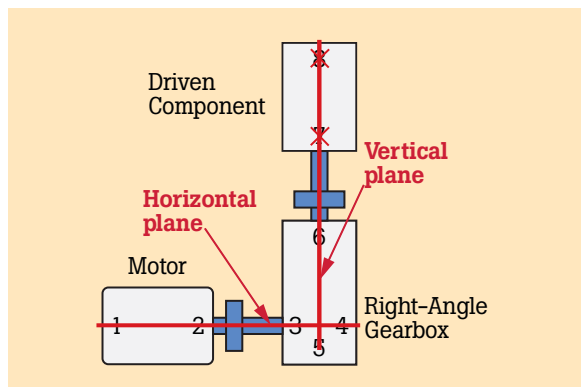

Figure 5. Horizontal and vertical shafts.
**Note:** You cannot use this test method if the gearbox output shaft connects to the driven component through a flexible coupling because misalignment cannot be diagnosed on shafts in two directions (see Figure 5).
In Figure 5, the coupling on the vertical shaft cannot be diagnosed for misalignment because the diagnostic engine is looking for a machine with a horizontal orientation. The diagnostic rules can reference either horizontal or vertical, but not both.